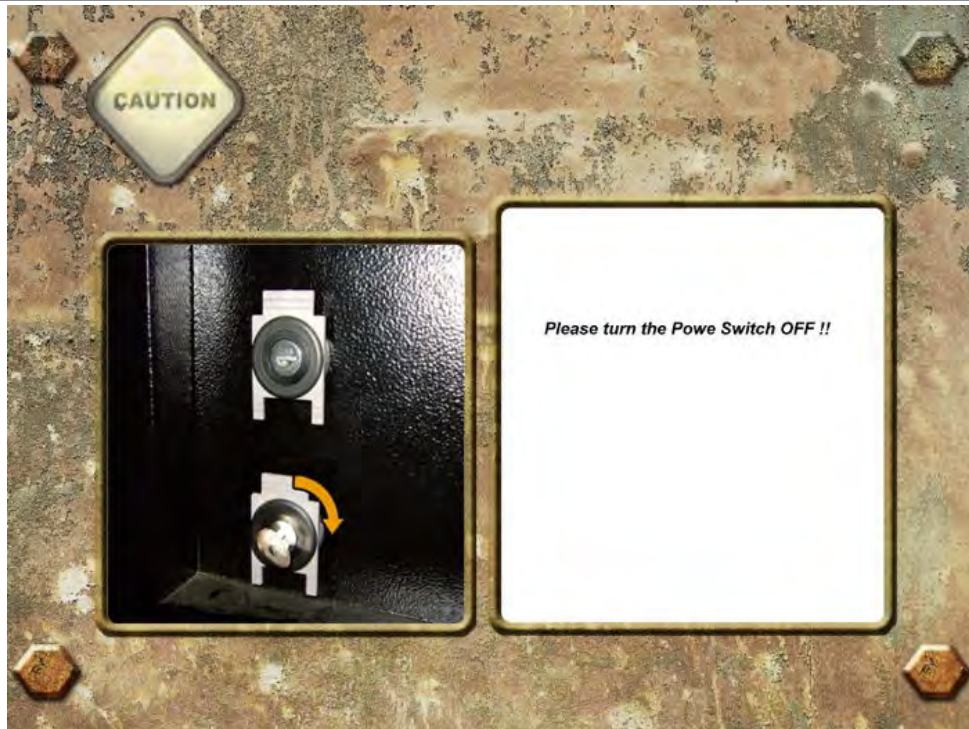

Fig. 4-22 “*Shutdown System*” Window
2. Press the “*select*” button on the joystick to choose to Shutdown, so computer can systematically close (Fig.4-22).